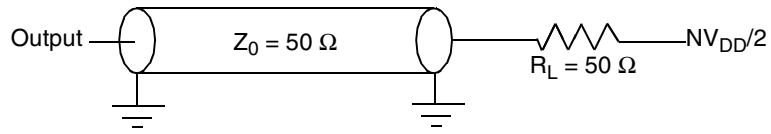
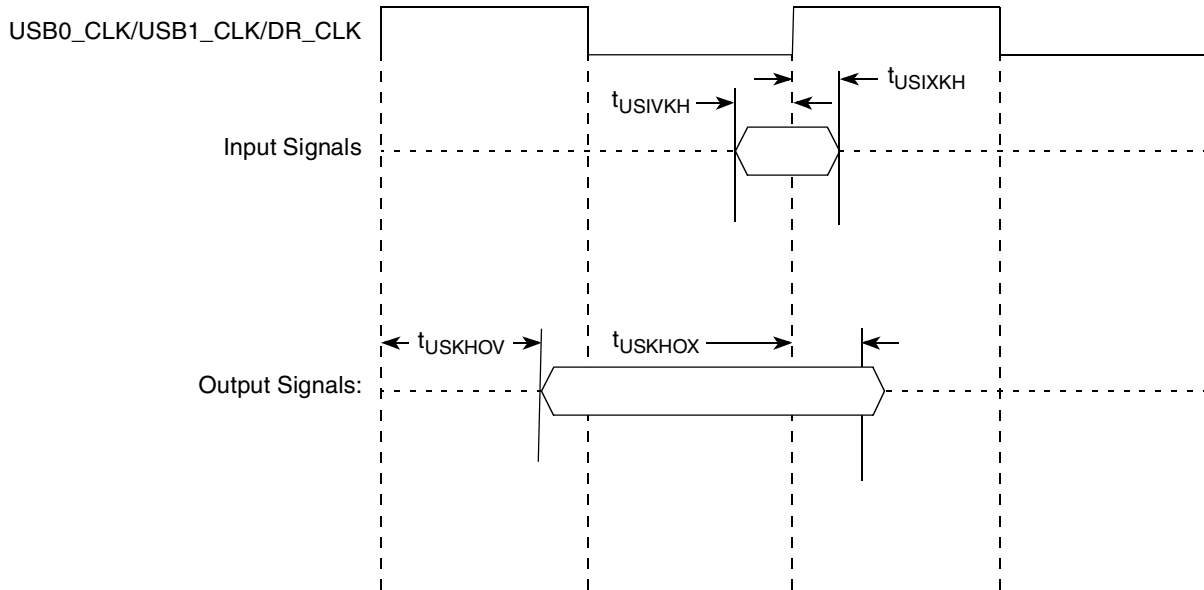

Figure 17. USB AC Test Load
Figure 18. USB Signals
Figure 17 and Figure 18 provide the AC test load and signals for the USB, respectively.
1. All outputs are measured from the midpoint voltage of the falling/rising edge of t_{TCLK} to the midpoint of the signal in question. The output timings are measured at the pins. All output timings assume a purely resistive 50-Ω load (see Figure 17). Time-of-flight delays must be added for trace lengths, vias, and connectors in the system.
2. The symbols used for timing specifications herein follow the pattern of $t_{(first\ two\ letters\ of\ functional\ block)(signal)(state)\ (reference)(state)}$ for inputs and $t_{(first\ two\ letters\ of\ functional\ block)(reference)(state)(signal)(state)}$ for outputs. For example, t_{JTDVKH} symbolizes JTAG device timing (JT) with respect to the time data input signals (D) reaching the valid state (V) relative to the t_{JTG} clock reference (K) going to the high (H) state or setup time. Also, t_{JTDXKH} symbolizes JTAG timing (JT) with respect to the time data input signals (D) went invalid (X) relative to the t_{JTG} clock reference (K) going to the high (H) state. Note that, in general, the clock reference symbol representation is based on three letters representing the clock of a particular functional. For rise and fall times, the latter convention is used with the appropriate letter: R (rise) or F (fall).